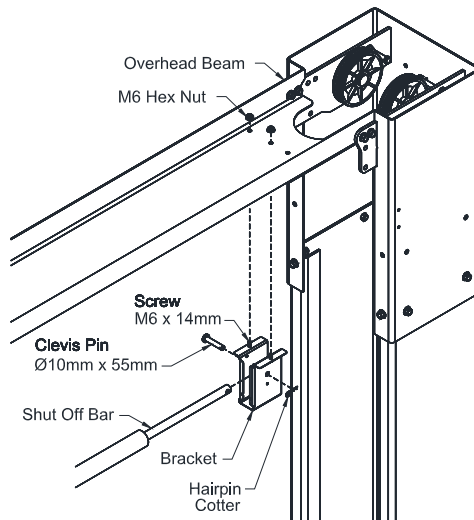

Fig. 7b – Overhead Bracket Idler Side
- 22) Install the Idler Bracket to the Overhead Beam using the rear set of holes on the Idler Side of the lift. **Fig. 7b**. **Note the orientation of the Idler Bracket. The narrow slot needs to be facing towards the Power Column.** Slide the Shutoff Bar over the limit switch on the Power Side. Pin the Shutoff Bar to the Idler Side Bracket with the 10mm dia. x 55mm Lg. clevis pin & hairpin cotter.